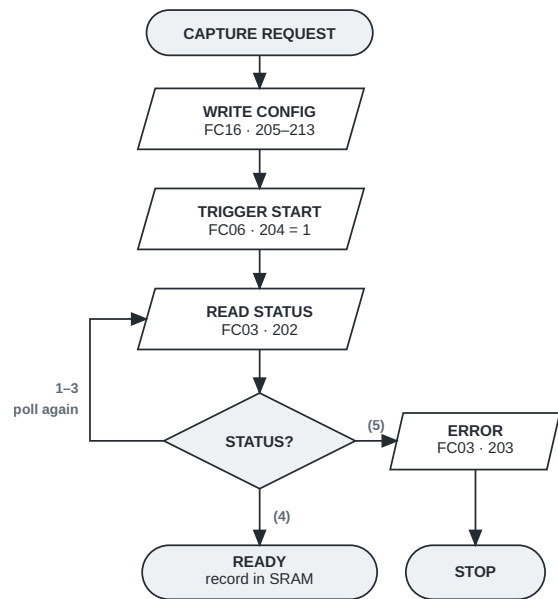

Figure 6: Modbus capture transaction sequence.
To acquire a time waveform, the Modbus RTU client writes the complete sensor configuration described in Section 1.6 to the device, writes START (1) to the CONTROL register (204), and polls the CAPTURE_STATUS register (202) until it reports READY or ERROR (see flowchart Figure 6). Table 2 summarizes the configuration, status, and page-download registers used by this workflow.